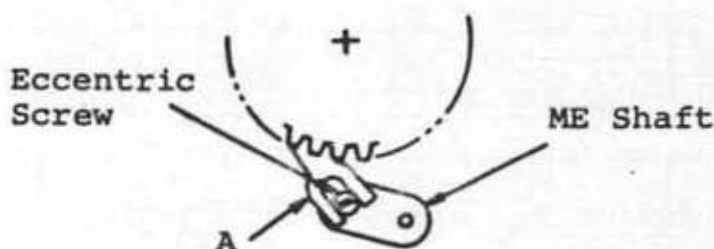

Fig. 2-27
2. There should be no play in the blades in the open position. Adjust with Eccentric Screw "A" (Fig. 2-27).
4. There should be no play in the blades in the closed position. Adjust with Eccentric Screw "B" (Fig. 2-27).